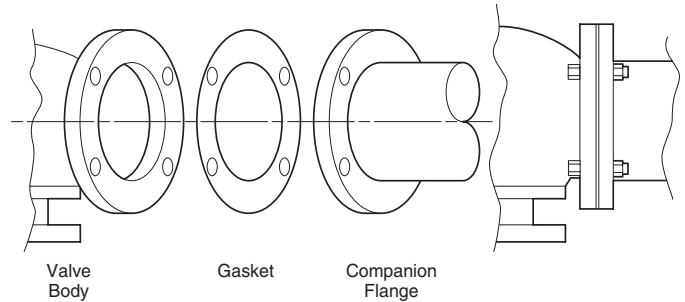

Figure 5. Installation of Flanged End Valves.
4. See Figure 5 for flange and flange bolt details. Figure 5 also shows the proper way a flanged valve should be mounted.